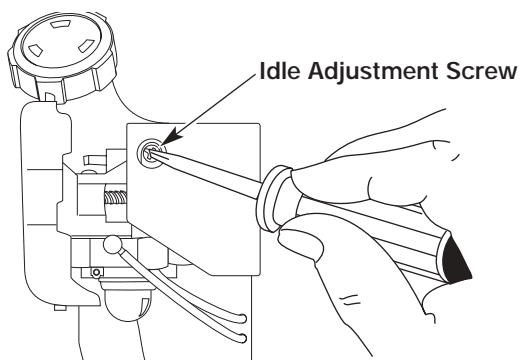

Figure 49
The idle speed of the engine is adjustable through the air filter/muffler cover. See Figure 49.
2. Release the throttle trigger and let the engine idle. If the engine stops, insert a small phillips or flat blade screwdriver into the hole in the air filter/muffler cover. See Figure 49. Turn the idle speed screw in, **clockwise**, 1/8 of a turn at a time (as needed) until the engine idles smoothly.